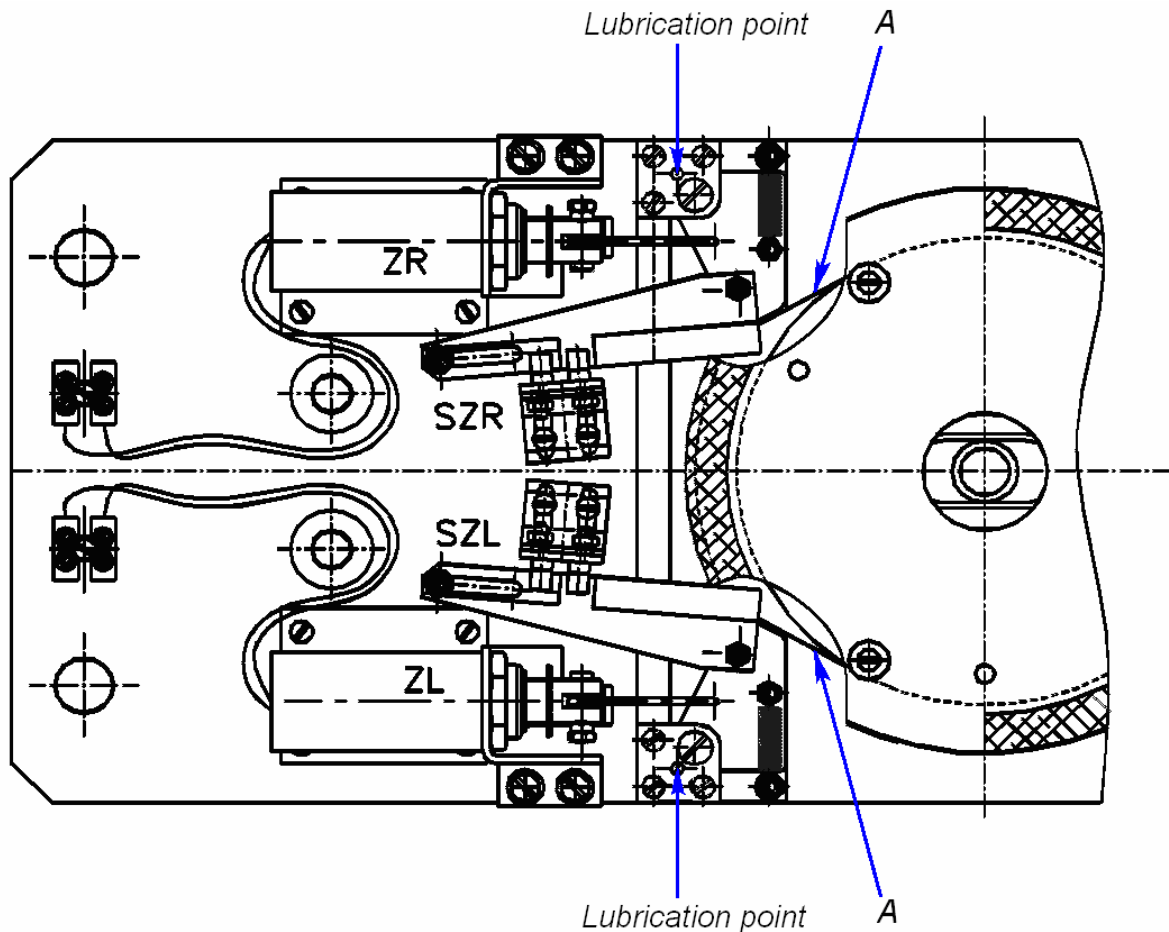

Fig. 19 Above view of the operating mechanism installed inside the top channel (13) with lubrication points
- the stoppers and contact surfaces A of the operating mechanism – 2 or 3 oil drops into each lubrication point (shown in Fig. 19).